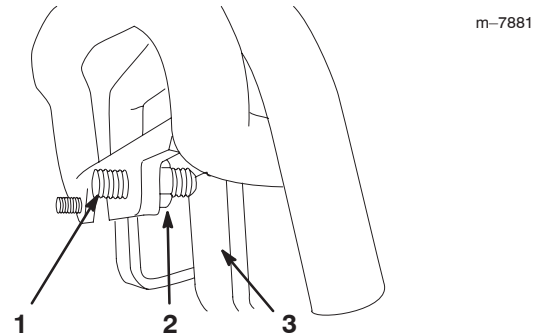

Figure 29
3. If the traction unit veers to the **left**, loosen the **right** jam nut and adjust the tracking set screw on the front of the traction control (Fig. 29).
4. If the traction unit veers to the **right**, loosen the **left** jam nut and adjust the tracking set screw on the front of the traction control (Fig. 29).